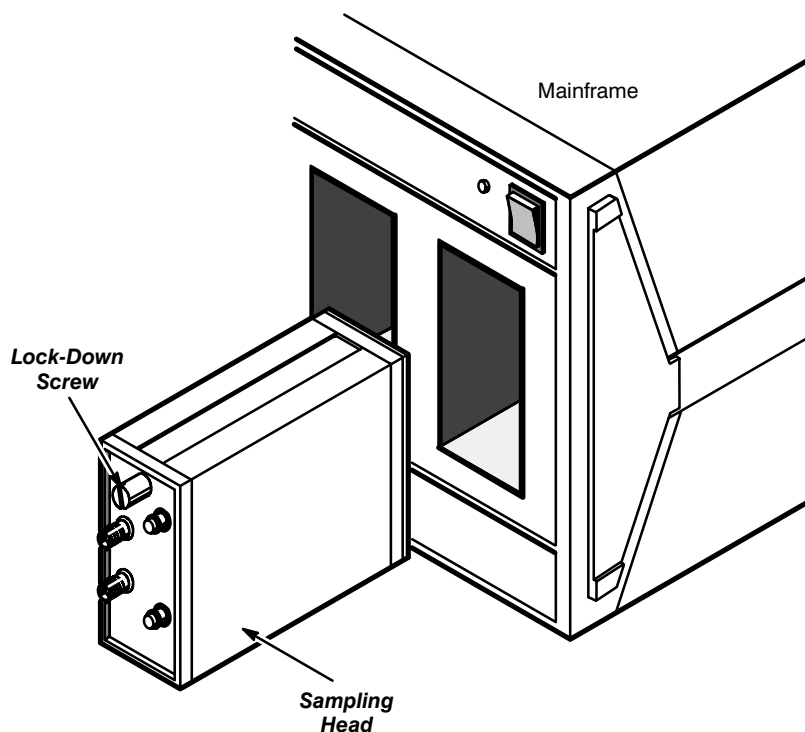

Figure 3: Installing a Sampling Head in an Instrument
- Figure 3: Installing a Sampling Head in an Instrument 10
To install a sampling head, first power-off the instrument. Then place the sampling head in a compartment and slowly push it in with firm pressure. Once the head is seated, turn the lock-down screw on the sampling head to tighten the sampling head into place. See Figure 3.